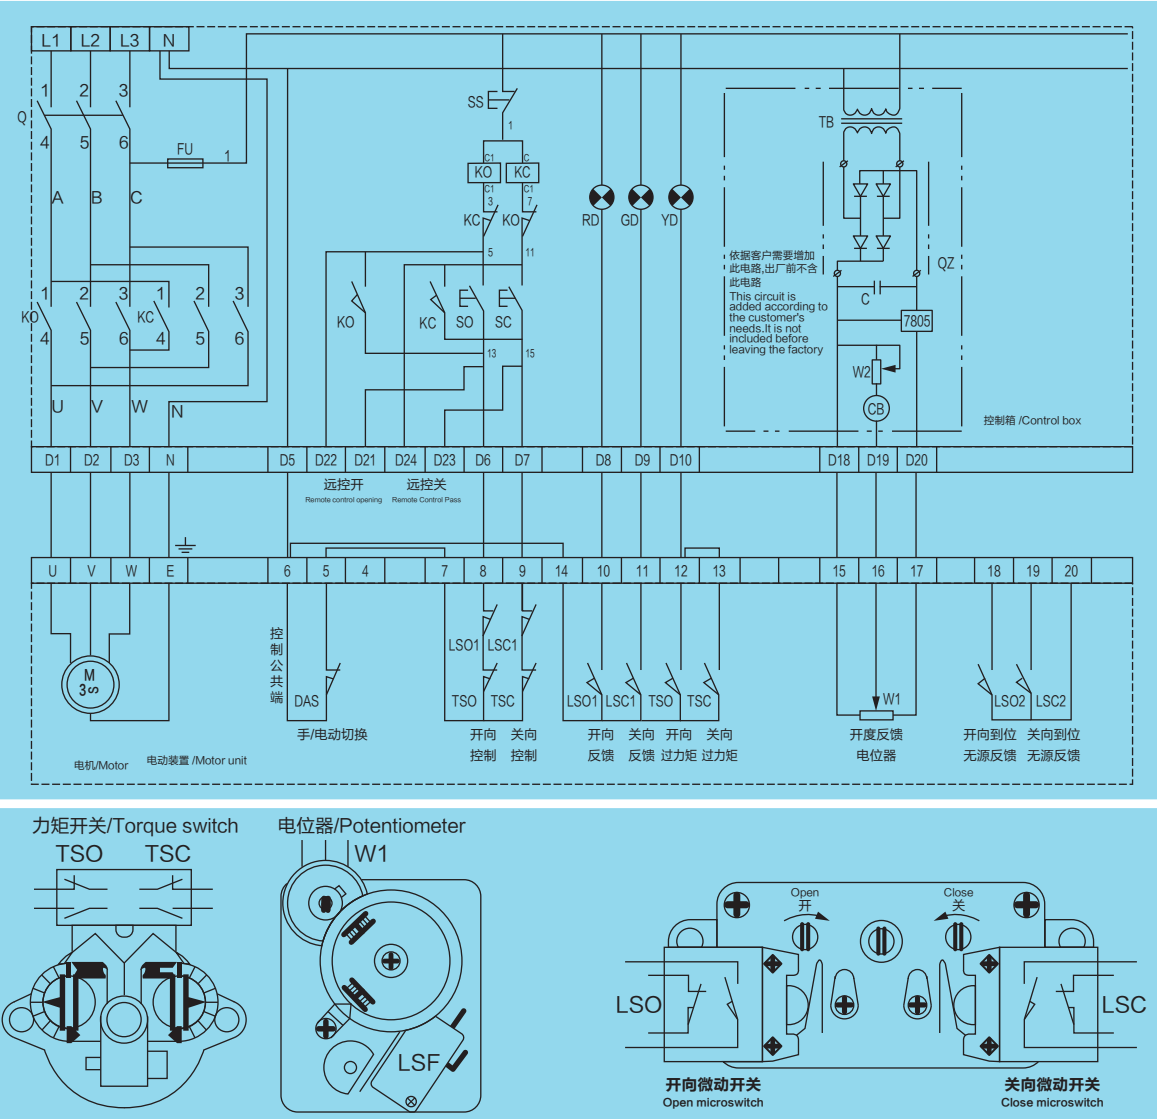

图5普通型及隔爆普通型电气原理图
(1)普通型及隔爆普通型电动装置电气原理图见图5
(1) See Fig. 5 for the electrical schematic diagram of ordinary and flameproof electric devices
Fig. 5 electrical schematic diagram of common type and flameproof common type